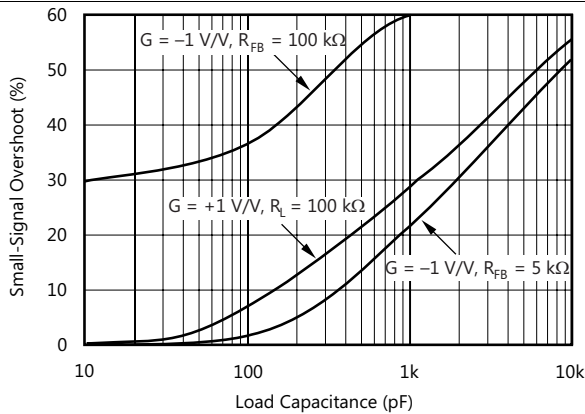
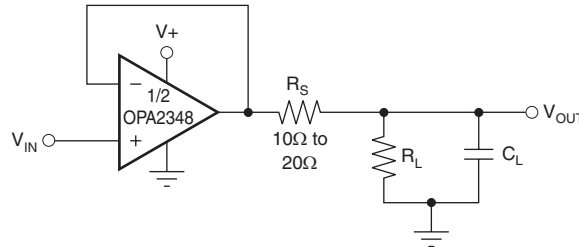
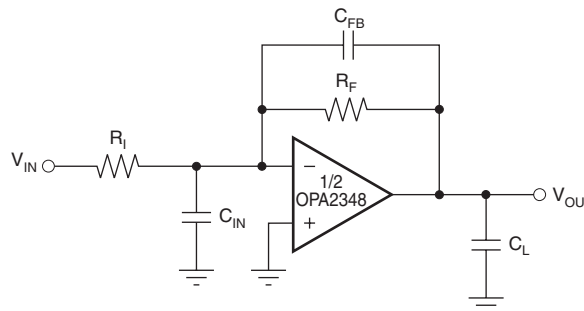

Figure 13. Small-Signal Overshoot vs Load Capacitance
Figure 24. Series Resistor in Unity-Gain Buffer Configuration Improves Capacitive Load Drive
Figure 25. Improving Capacitive Load Drive
The OPAx348-Q1 family of devices in a unity-gain configuration can directly drive up to 250-pF pure capacitive load. Increasing the gain enhances the amplifier's ability to drive greater capacitive loads (see Figure 13 in the Typical Characteristics section). In unity-gain configurations, capacitive load drive can be improved by inserting a small ($10\ \Omega$ to $20\ \Omega$) resistor, R_S , in series with the output, as shown in Figure 24. This resistor significantly reduces ringing while maintaining DC performance for purely capacitive loads. However, if a resistive load exists in parallel with the capacitive load, a voltage divider is created, introducing a direct current (DC) error at the output and slightly reducing the output swing. The error introduced is proportional to the ratio R_S/R_L and is generally negligible.
In unity-gain inverter configuration, the phase margin can be reduced by the reaction between the capacitance at the op-amp input and the gain setting resistors, thus degrading capacitive load drive. The best performance is achieved by using small-valued resistors. For example, when driving a 500-pF load, reducing the resistor values from $100\ \text{k}\Omega$ to $5\ \text{k}\Omega$ decreases overshoot from 55% to 13% (see Figure 13 in the Typical Characteristics section). However, when large valued resistors cannot be avoided, a small ($4\ \text{pF}$ to $6\ \text{pF}$) capacitor, C_{FB} , can be inserted in the feedback, as shown in Figure 25. This small capacitor significantly reduces overshoot by compensating the effect of capacitance, C_{IN} , which includes the input capacitance of the amplifier and PC board parasitic capacitance.